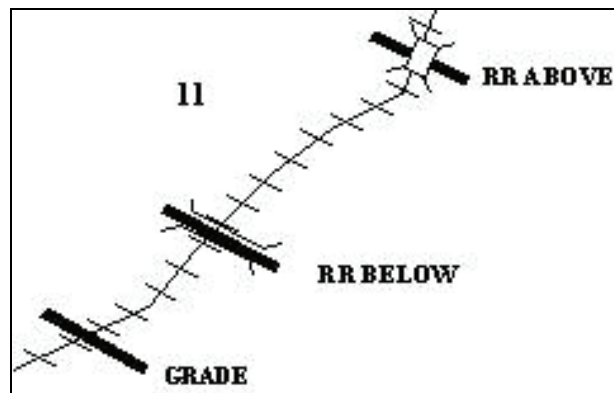

Figure 3-37. Crossings
- k. Crossings (see Figure 3-37).